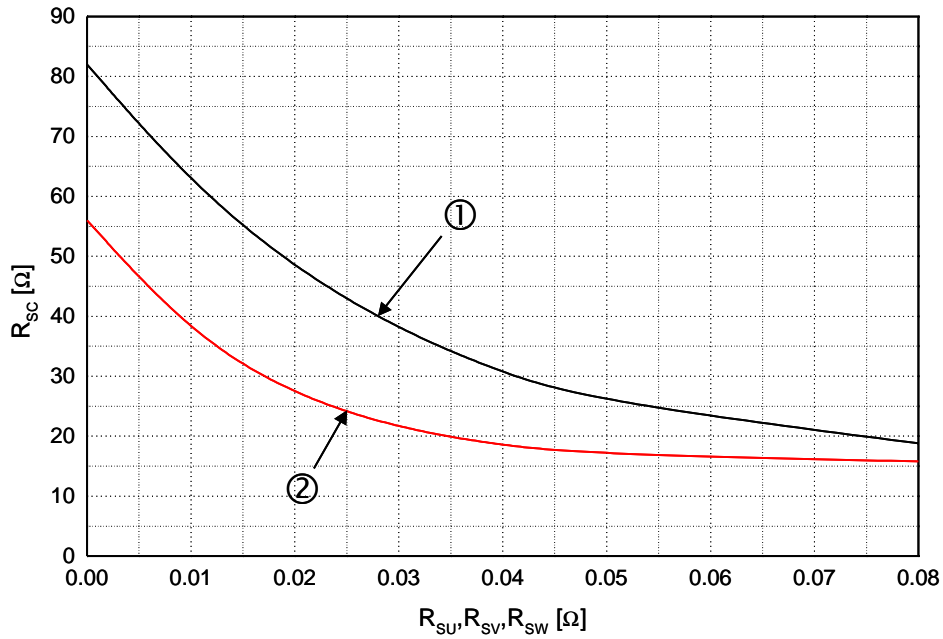

Fig. 8. R_{SC} Variation by change of Shunt Resistors (R_{SU}, R_{SV}, R_{SW}) for Short-Circuit Protection
- Short-circuit current protection is functioning only at the low-sides. It would be recommended that the value of the external sensing resistor (R_{SC}) should be selected around 56 Ω in order to make the SC trip-level of about 30A at the shunt resistors (R_{SU}, R_{SV}, R_{SW}) of 0Ω. For the detailed information about the relationship between the external sensing resistor (R_{SC}) and the shunt resistors (R_{SU}, R_{SV}, R_{SW}), please see Fig. 8.
9. For the use of shunt resistors (R_{SU} , R_{SV} , R_{SW}), please see Fig. 8 in order to select the proper R_{SC} .